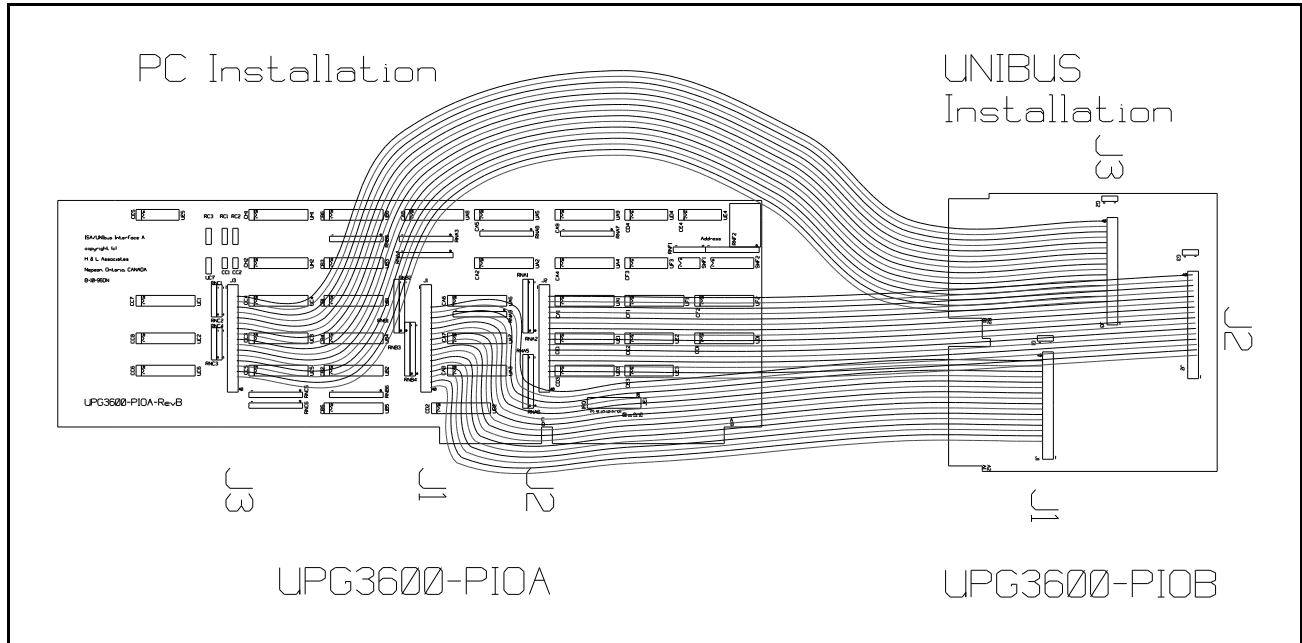

Figure B.3 : UPG3600-PIOA and UPG3600-PIOB Interface Boards
- | Lead the three supplied ribbon cables through the back of the computer and plug them into the three connectors J2, J1 and J3 (in that order) on the UPG3600-PIOA card as shown in Figure B.3. Then plug the other end of each ribbon cable into the corresponding connector on the smaller UPG3600-PIOB card. Note that each ribbon cable header on the UPG3600-PIOA and -PIOB boards has a small V-shaped marking to indicate pin 1 on the header. The red line on the ribbon cable should line up with this marking on the header. Keyed connectors will force this alignment.